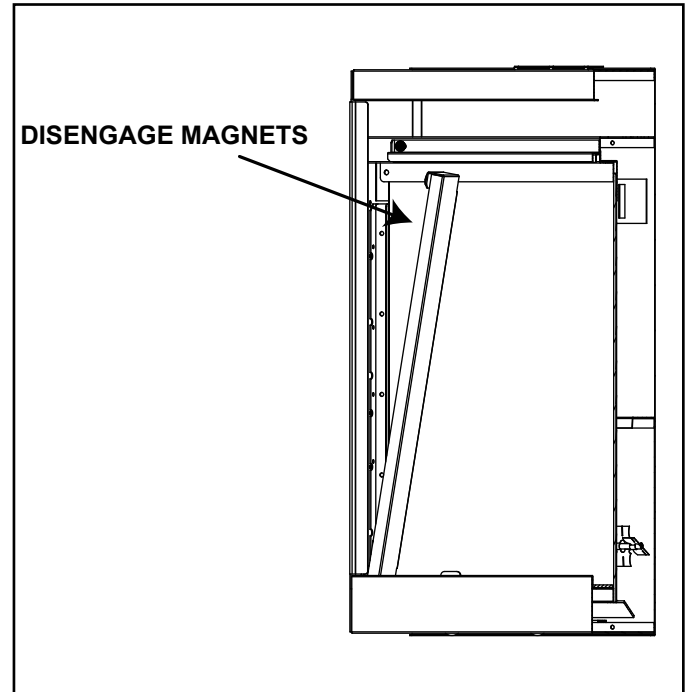

Figure 4 Side Panel Removal
2. Remove side panels by pulling outwards to disengage magnets, then pulling up and out. See Figure 4.